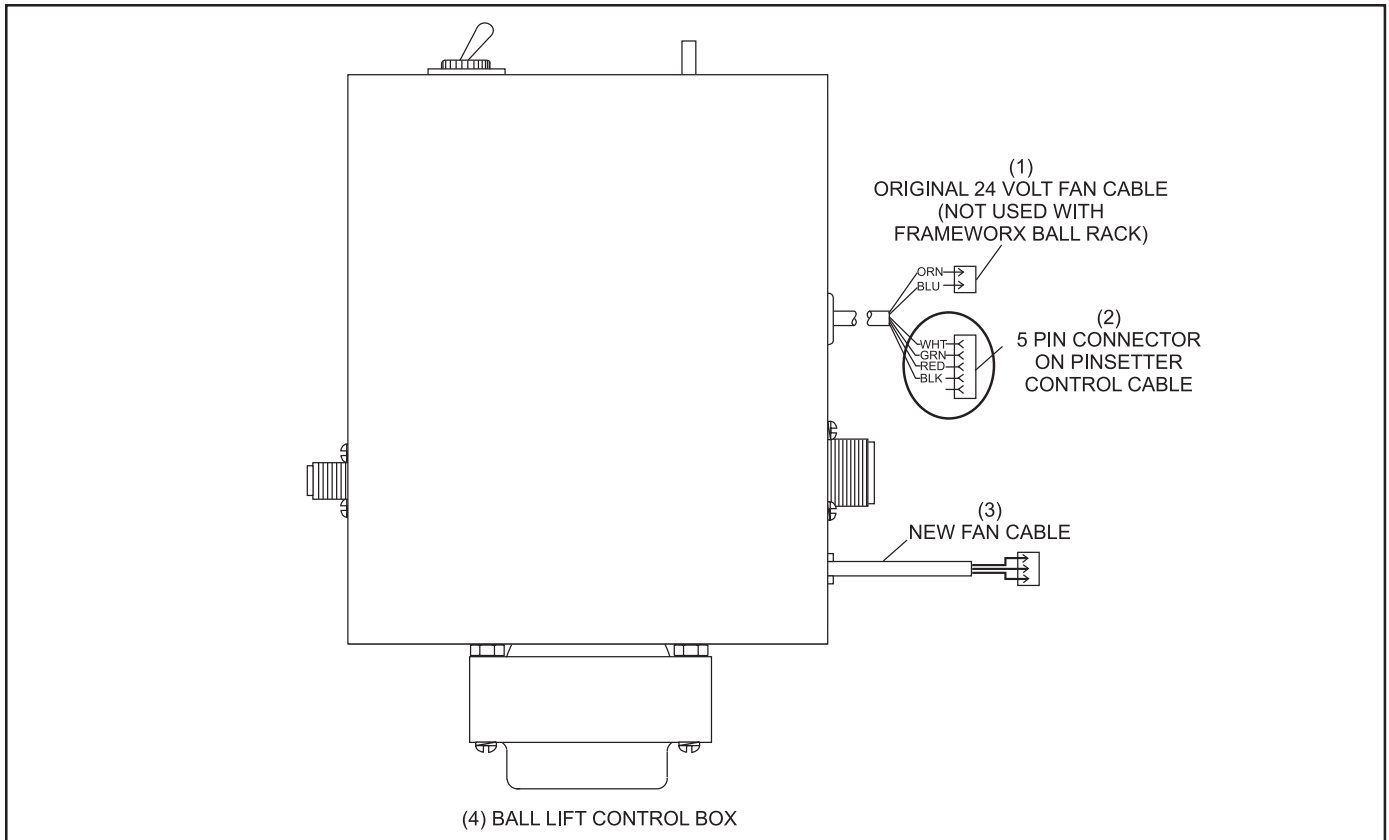

Figure 20. Ball Lift Control Box
2. Locate the 5 pin connector on the ball lift control box. Refer to *Figure 20*.